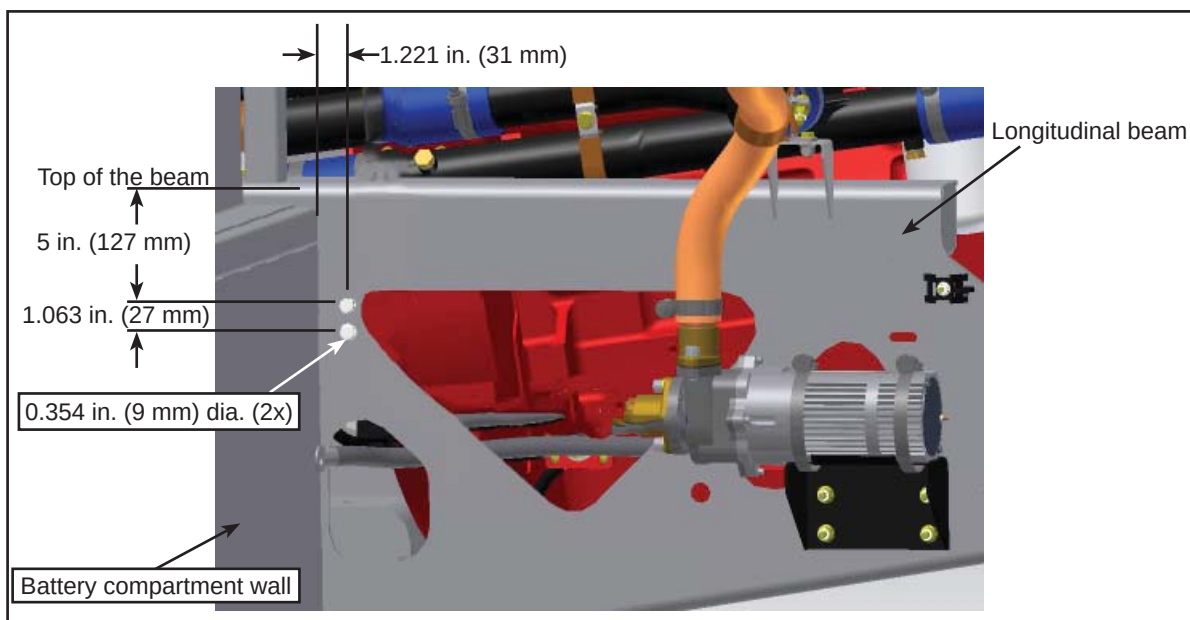

Figure 6 - N77710 Bracket Hole Drilling Locations
- 1.10. Drill two holes of 0.354 in. (9 mm) in diameter into the longitudinal beam to hold the N77710 bracket support in place. See Figure 6.